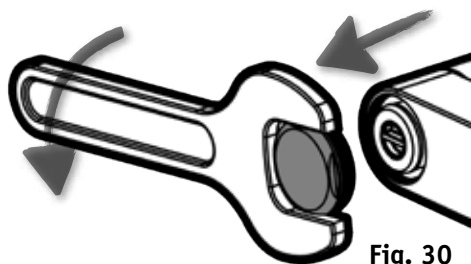

Fig. 30
3) Remove the END CAPS 20 using 40mm SPANNER (Fig. 30)